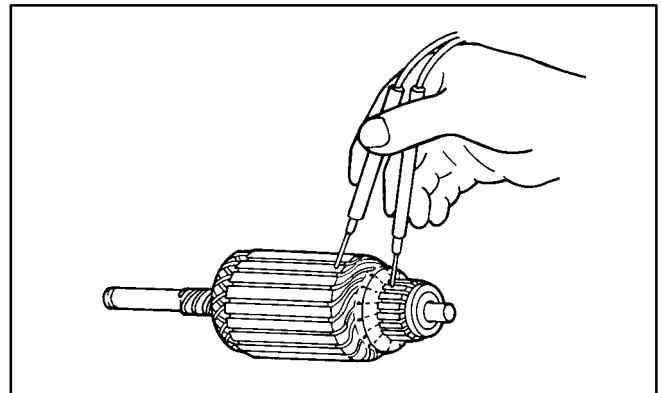

FIGURE 29. CHECKING WINDING INSULATION
**Winding Insulation:** See Figure 29. Use an ohmmeter to check for winding insulation breakdown between the windings and the rotor laminations. Replace the armature if the ohmmeter does not indicate high resistance on its highest scale between any commutator segment and the rotor laminations.